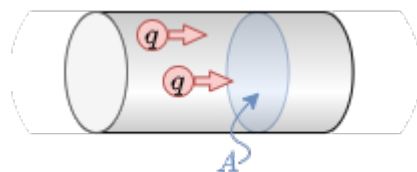

Fig. 3: Part of a Conductor
- In the thought experiment, let the following be given (see figure 3):
- In the case of a uniform charge transport over a longer period of time, i.e. direct current (DC), the following applies: